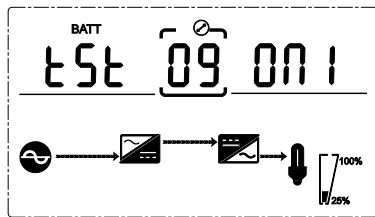

Fig. 4-21 Autotest ON1
- When choosing **ON1**, UPS can transfer to Battery Mode automatically per 30 days. And the Battery Self-test time is **10 seconds** (Fig. 4-21).